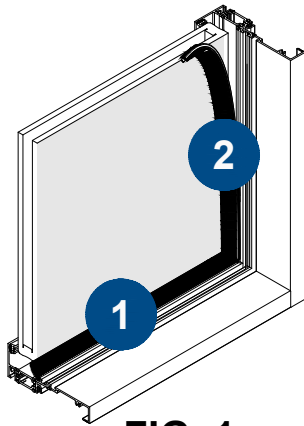

FIG. 1
- a. Repeat step 3 by inserting vertical airseal gasket ensuring it overlaps the gasket at the sill. Finally insert gasket at the head overlapping gaskets at both side. **See FIG. 1**